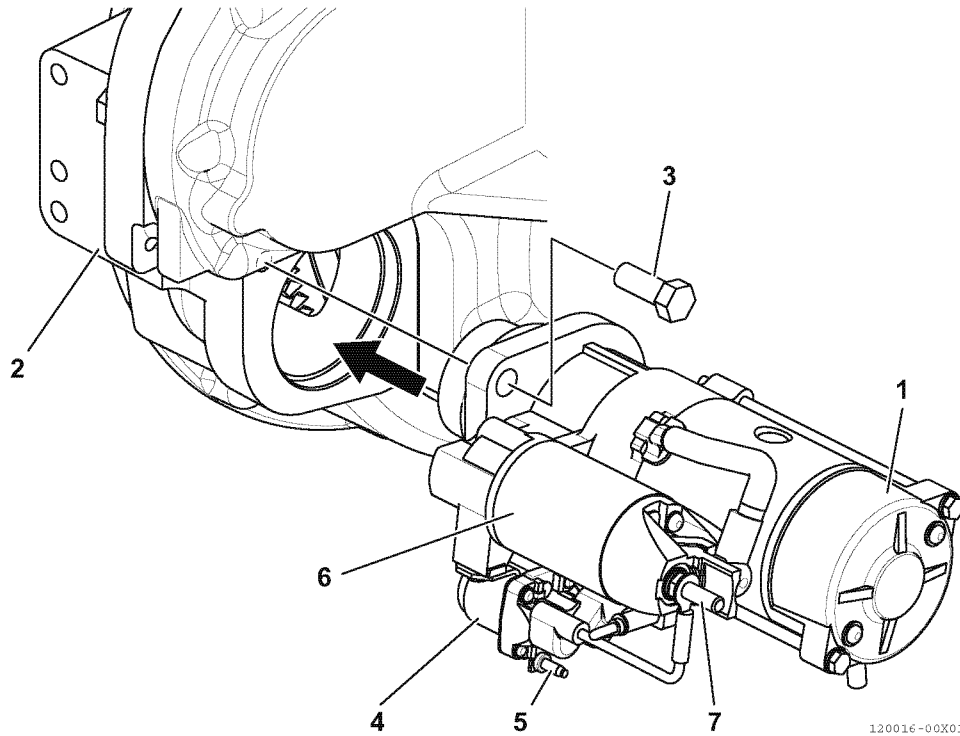

Fig.70-4
2. Install the starter (1, Fig.70-4) to the flywheel housing (2, Fig.70-4), and tighten the mounting bolts (3, Fig.70-4) to the specified torque. See 0000-07-03-01 "Standard Torque".
3. Connect the electrical wire coming from the driven machine to the terminal (5, Fig.70-4) of the magnetic switch control relay (4, Fig.70-4), and connect the cable coming from the battery to the terminal B (7, Fig.70-4) of the magnetic switch assembly (6, Fig.70-4).